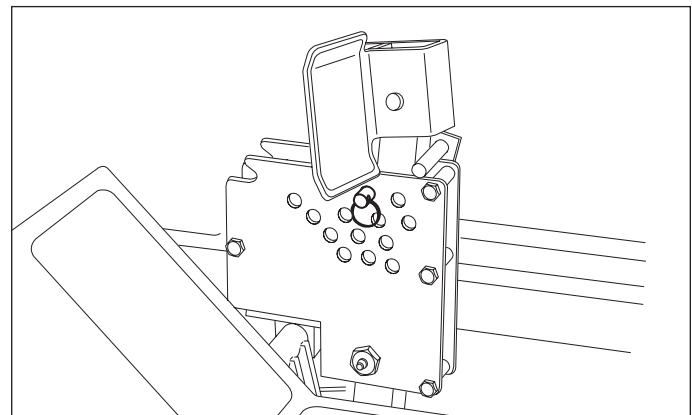

Figure 40. Deck Lift Pedal & Pin Position
6. To ensure that the deck is in the lowest position, push the pedal by hand towards the rear of the unit. Install the cutting height adjustment pin in front of the deck lift pedal arm to prevent the pedal from moving forward. See Figure 40.